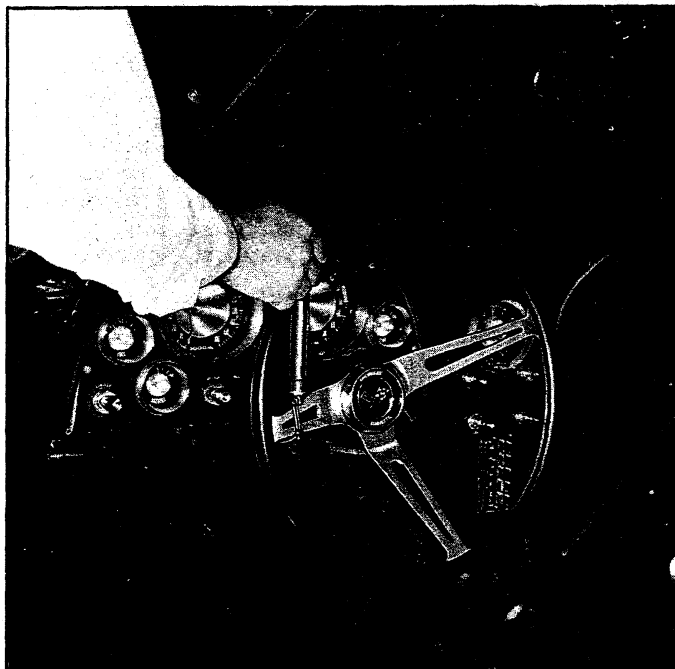

Fig. 4—Checking Wheel Pull—Corvette
- a. Use Tool J-5178 to measure pull at rim of wheel required to keep wheel in motion (fig. 4).